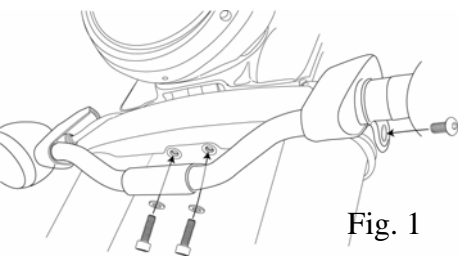

Fig. 1
2. Locate the four mounting bolts for the Turn Signal Bar. Using an 8mm wrench, remove the two bolts from under the lower triple tree. Then with a 5mm Allen wrench remove the two outer screws located on the sides of the forks. (see Fig. 1)